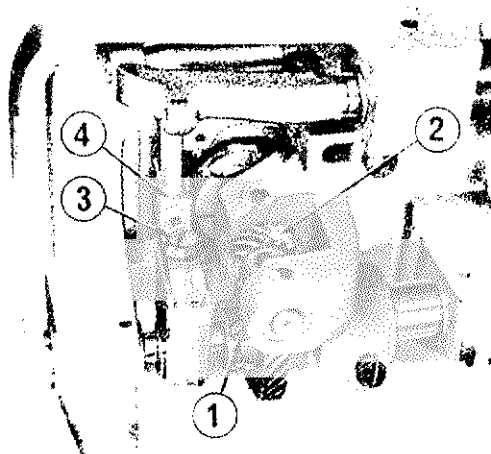
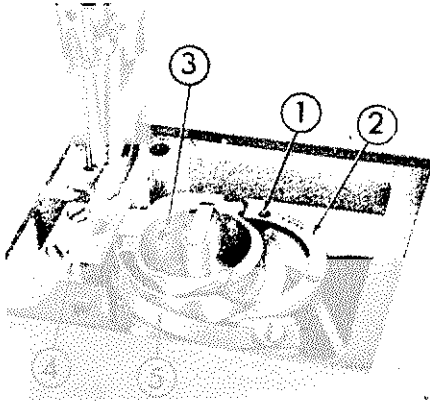

Fig. 22
Fig. 23
When the timing of the needle bar and the blade point is matched wrong, rotate the hand wheel towards the operator and set the height of the needle bar applying the above-mentioned method. Then, loosen the 2 screws of the large mitre gear (Fig. 23 1), move the mitre gear to right or left, rotate the sewing hook and match it with the axis of the needle and re-tighten the 2 screws. At this point, the sewing hook is firmly set to the small mitre gear (Fig. 32 2).
6. Removing the bobbin case from the sewing hook (Fig. 23)
Remove the 2 small screws (Fig. 23 1) from the sewing hook, open the hook gib (Fig. 23 2) as shown in Fig. 22 and take out the bobbin case (Fig. 23 3).
Slide open the bed slide, remove the throat plate, feed dog (Fig. 23 4) and the sewing hook guide latch (Fig. 23 5).
Then, tilt the machine head backwards, loosen 2 set screws of the hook driving pinion (Fig. 22 2) and remove the sewing hook by knocking the bottom of the spindle of the hook lightly by a screw driver
(Fig. 22 3), slide the feed bar (Fig. 22 4) up and down and after adjusting firmly tighten the screw.